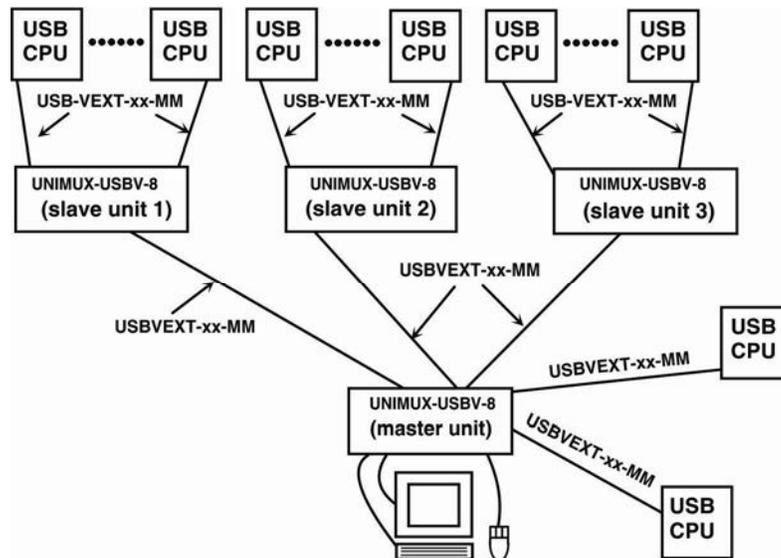
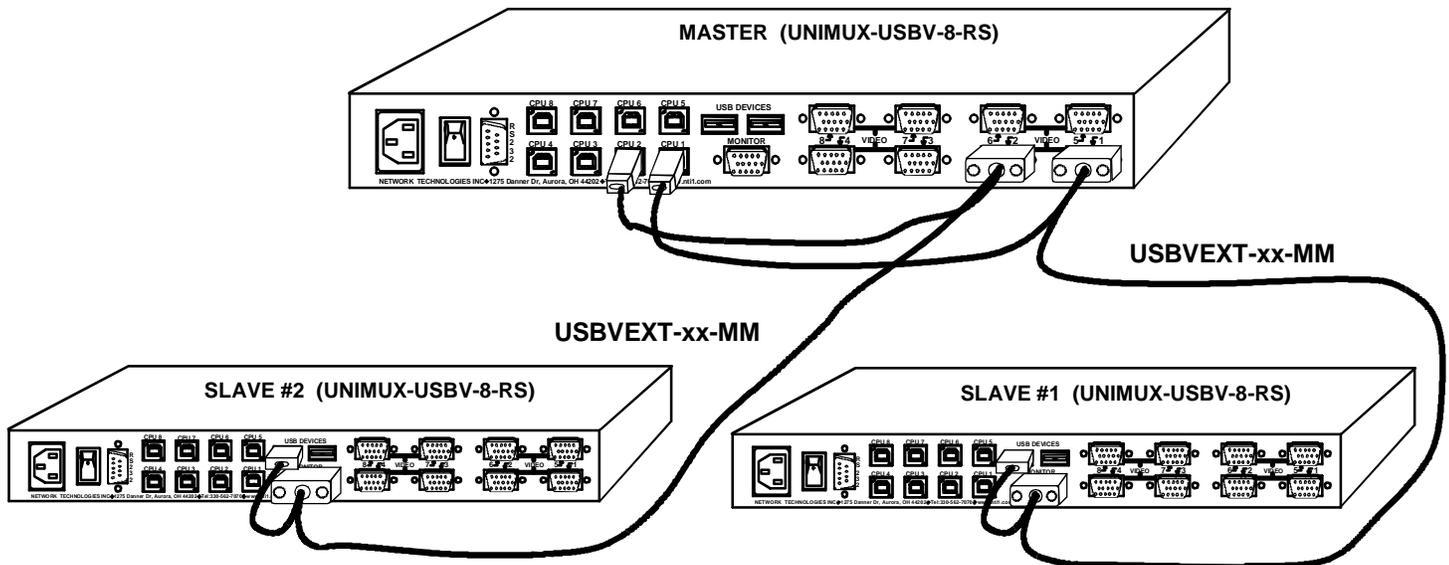

Figure 33- Connections for Cascading
Figure 35- Master-to-slave device cable connections- single-user switches
The UNIMUX-USBV-x USB KVM switch can be cascaded as shown in Fig. 33 below. Single user and multi-user UNIMUX switches may be connected downstream (see Figs.35 and 36). The first switch in a cascaded system is referred to as the "master", while all downstream switches are referred to as "slaves". The only additional hardware required to cascade switches is a set of device and monitor cables for each "SLAVE UNIT" (see MATERIALS on page 1). All CPUs and switches can then be controlled by users using OSD commands with Command Mode.
- c. Repeat step a. & b. for each additional slave, keeping in mind that each slave will connect to the next available master's port (i.e. Slave #2 to master's VIDEO 2 & CPU 2, etc.) See Fig. 35 on page 35.